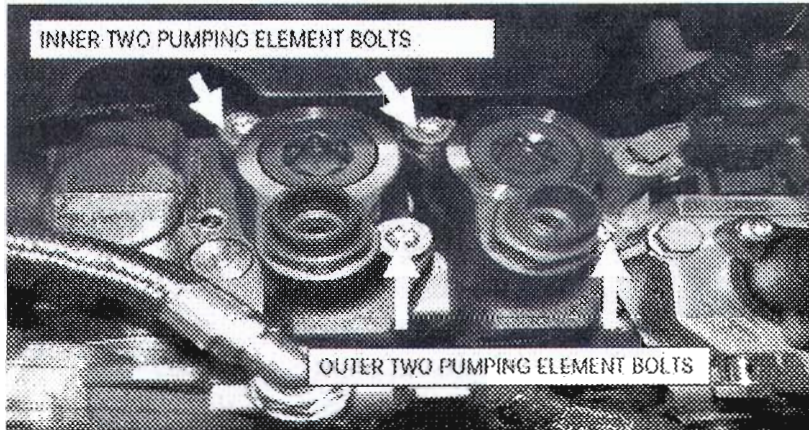

Figure 11 – High Pressure Pumping Element Bolt Locations
- Using a torque wrench and T45 Torx bit, tighten the outer two pumping element bolts to 42 N·m (31 lb-ft). See Figure 11.
- Using the torque adaptor supplied by Bosch, tighten the inner two bolts to 42 N·m (31 lb-ft). See Figures 11 and 12.